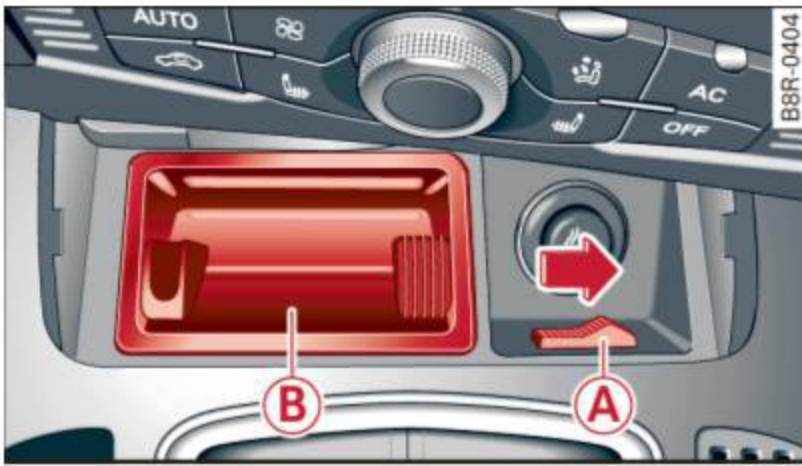

Fig. 88 Removing ashtray insert
- ▶ Release the ashtray by pushing the switch **(A)** ⇒ *fig. 88* to the right.